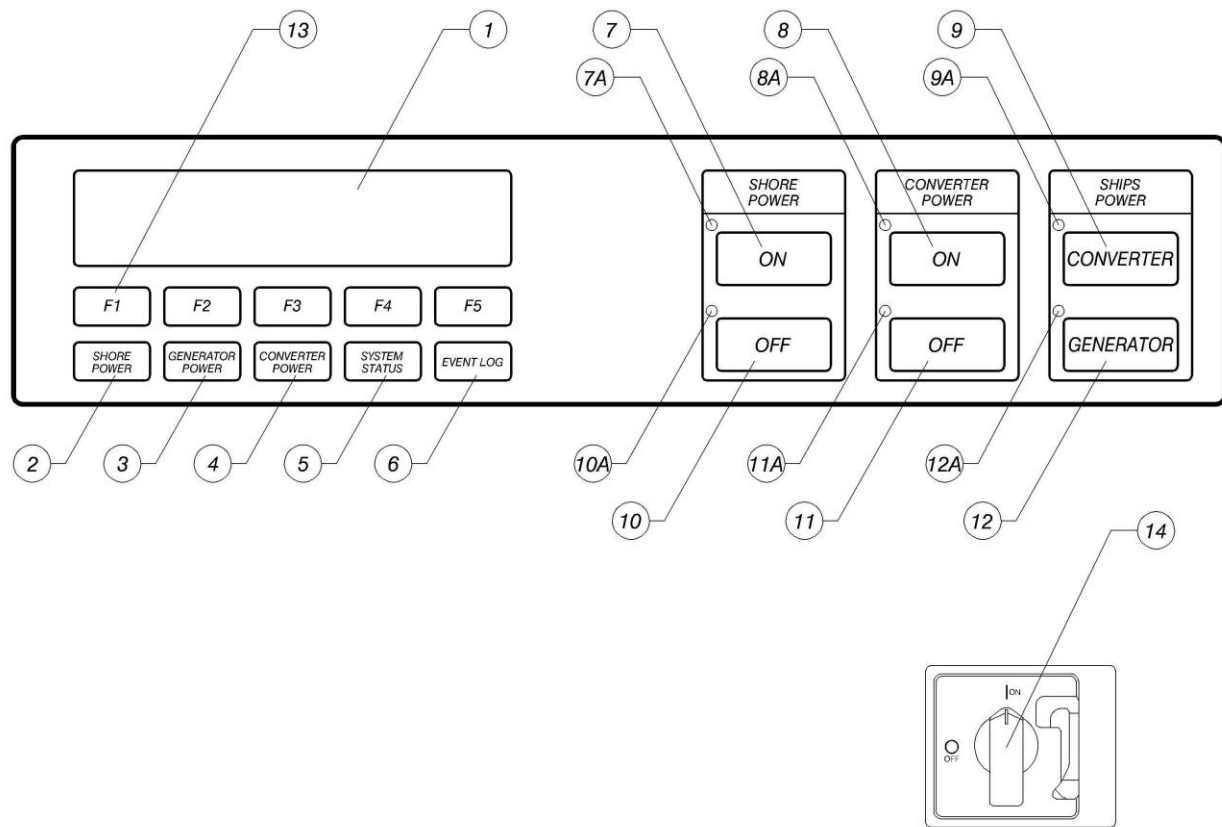

FIGURE 9 FRONT PANEL CONTROLS
Apply shore power to both cabinets and turn the disconnect switch (14) on each cabinet to the on position. Within 1-3 seconds each cabinet will start, fans will be heard, and the display will become active. Using the **SHORE POWER** (2) button on each cabinet, verify the applied shore power measures the expected form. Use the Figure 9, Front Panel Controls on page 28 for button references.